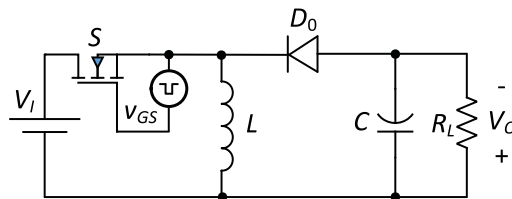

Figure 14.1 Circuit diagram of the PWM buck–boost dc–dc converter.
- Construct the circuit of the buck–boost converter shown in Figure 14.1 on the circuit simulator. Name all the nodes and components.